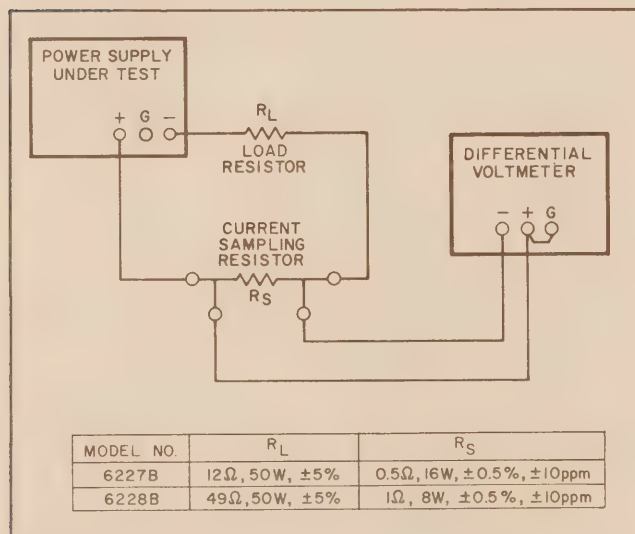

Figure 5-11. Constant Current Load Regulation Test Setup
- Connect test setup shown in Figure 5-11.
- Utilize test setup shown in Figure 5-11.
- a. Connect test setup shown in Figure 5-11.